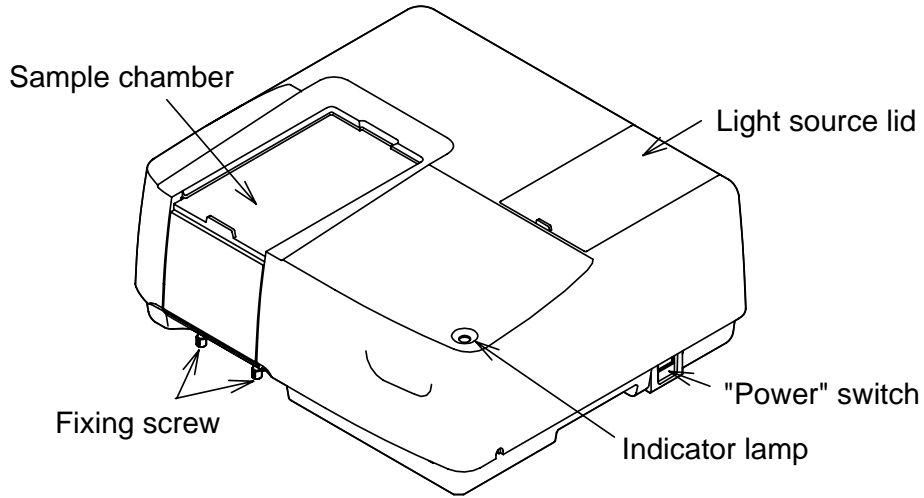
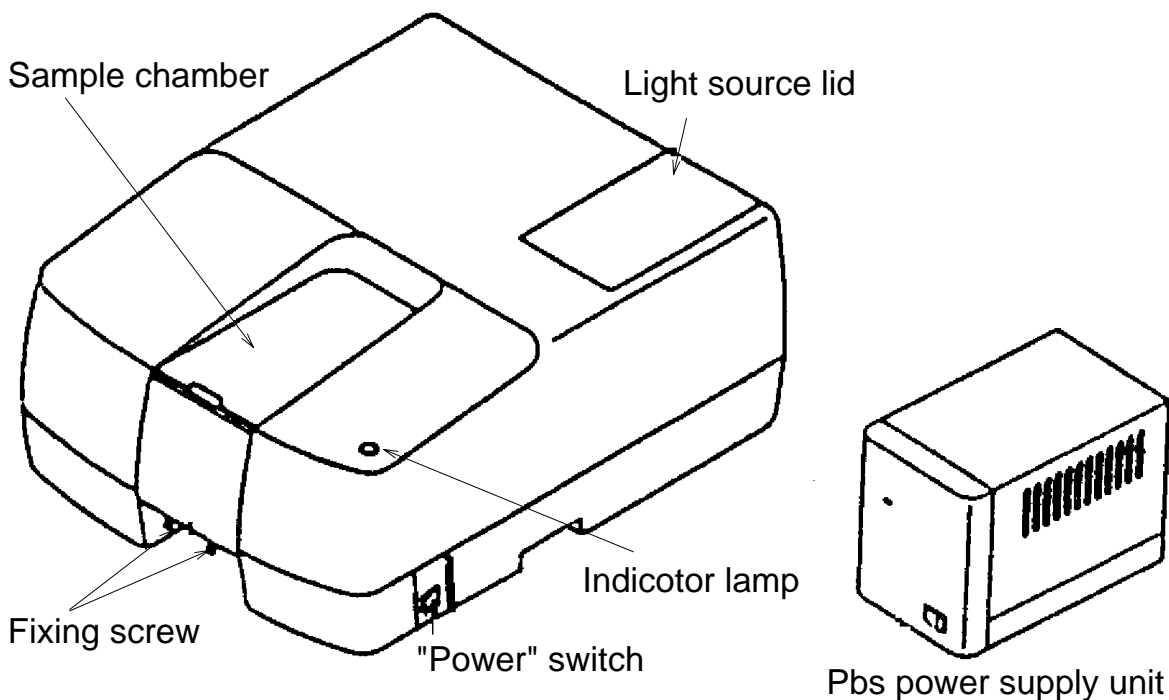

Fig. 3.1 Overview
Fig. 3.3 V-550/560/570 overview
- (1) Removing the sample chamber
- a) Open the sample chamber lid and loosen the two fixing screws on the front underside of the sample chamber by hand (see Fig. 3.1 or Fig. 3.3).
- (2) Cleaning the sample chamber